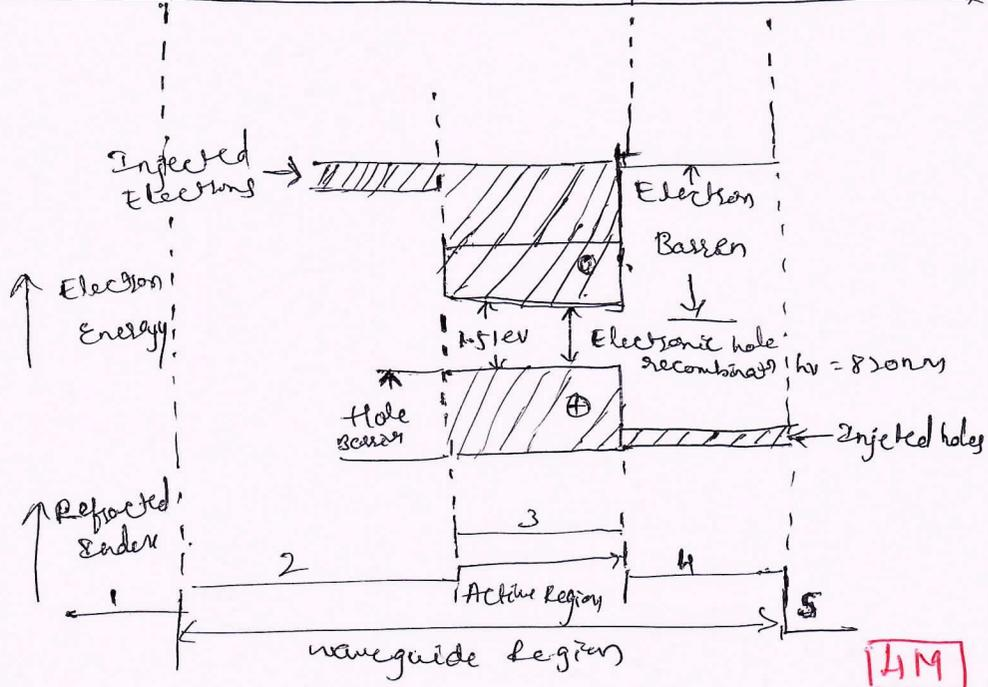

Fig 1:- Cross section of typical GaAlAs double-heterostructure LED.
- \* Fig 1 shows the double heterojunction structure with two different alloy layers on each side of active region.